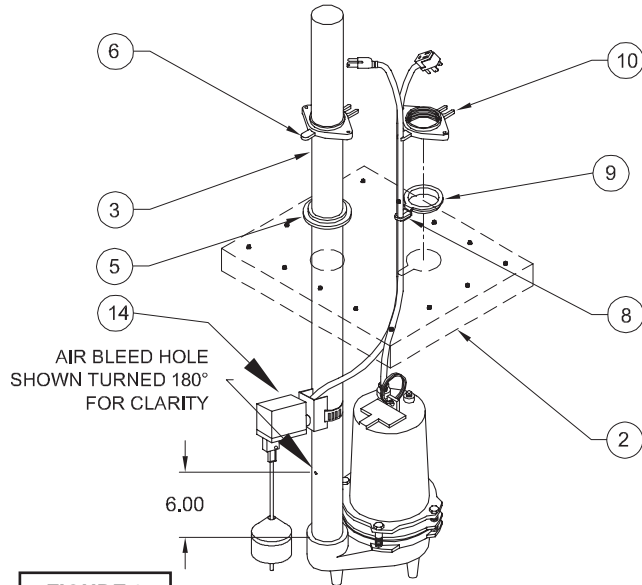

FIGURE 3
Drill a 1/8" diameter hole approximately 6" above the pump end of the discharge pipe. Attach discharge pipe to pump discharge. See Figure 3.
Place rubber gasket (5), (lip facing up) and straight flange (6) over discharge pipe (3) and attach to cover using two 7/8" bolts. See Figure 3.